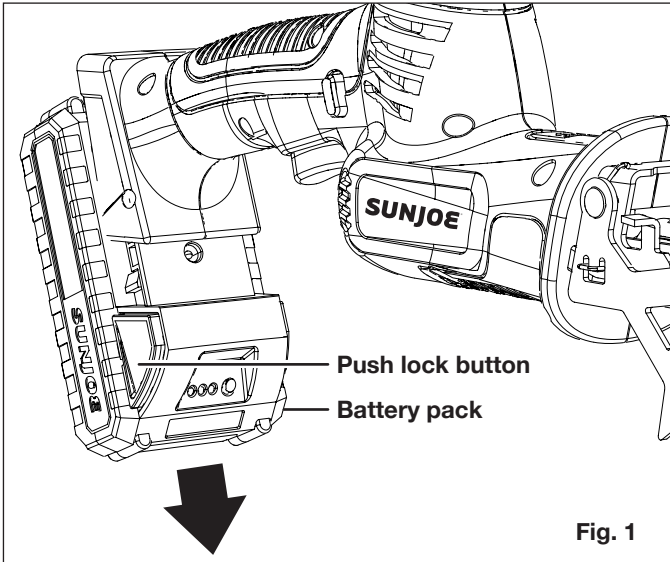

Fig. 1
1. Push the push lock buttons on the battery to pull the battery pack out from the battery compartment (Fig. 1).